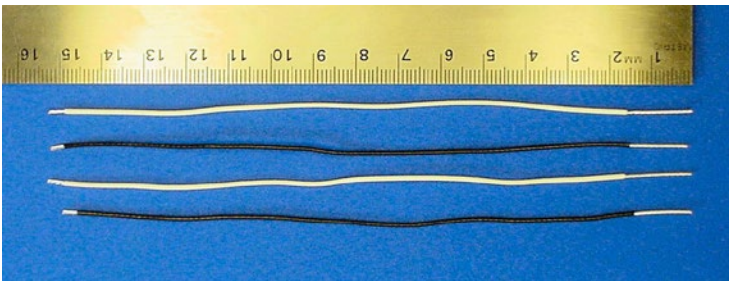

Figure 22-2. Two white and two black wires cut to the correct length with their ends stripped
3. Using wire strippers, remove about 1.5 cm of plastic insulation from one end of each wire, and about 0.35 cm of insulation from the other end of each wire (see Figure 22-2).